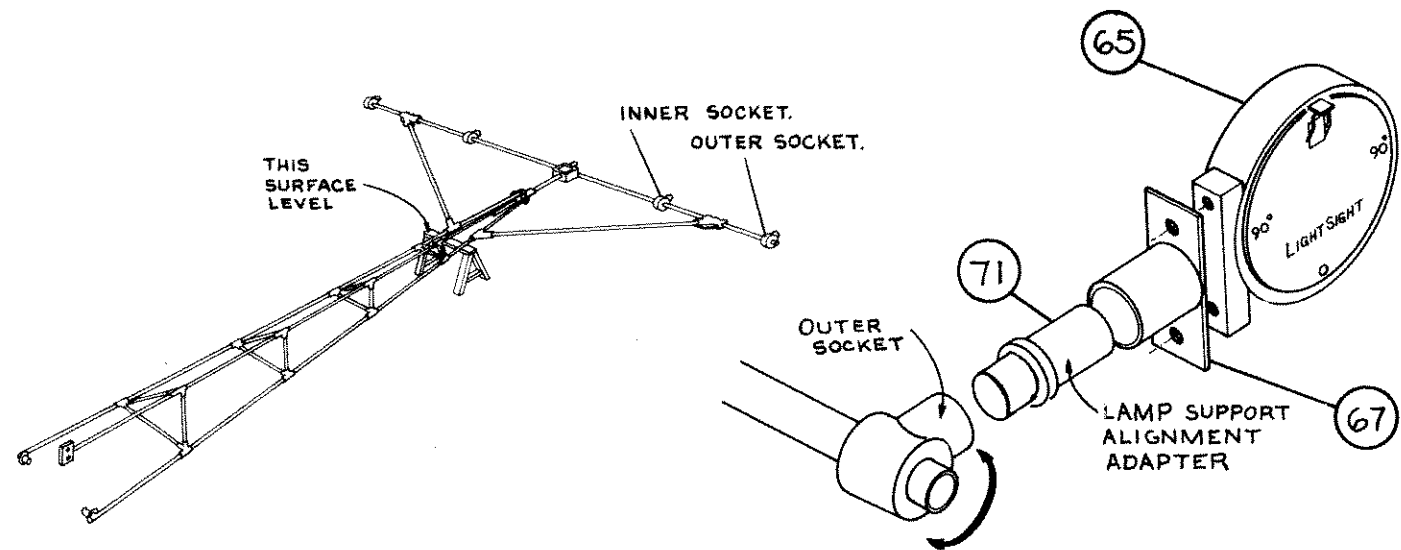

FIG. 23
2. Using socket adapter, align outer socket of MALS bar to the same reading as indicated on inner sockets (Fig. 23).